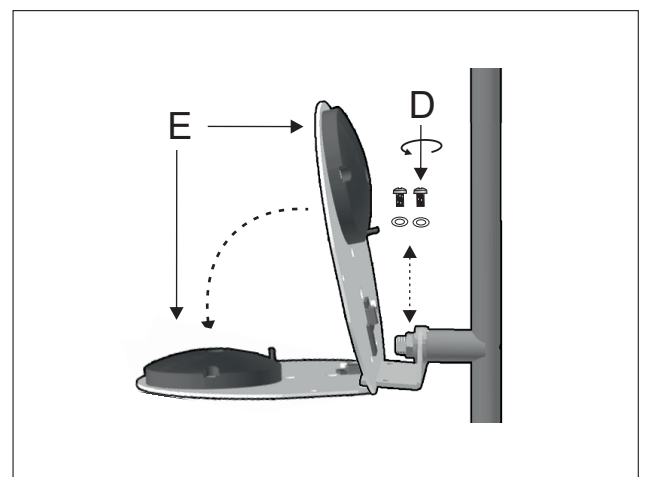

Figure 4
4 - Remove the screws and washers (D), place the screen (E) horizontally and fasten the screws (D) again to hold the screen. Figure 4.